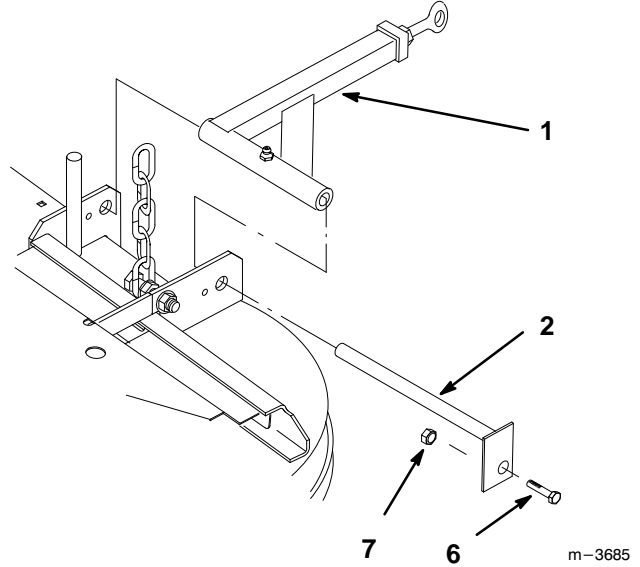

Figure 2
4. Secure pin flange to mower with 5/16-18 x 3/4" (19 mm) bolt and 5/16-18 flange nut (Fig. 2).